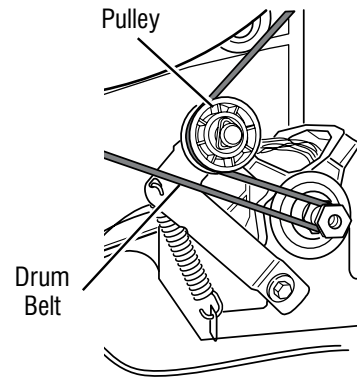

Figure 1 - Slowly remove drum belt.
7. Check the drive motor. Slowly remove the drum belt from the spring-loaded pulley, gently letting the pulley down. See figure 1